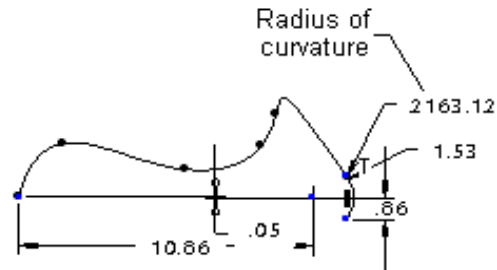

Figure 3-16 Radius of curvature dimensioning
3. Press the middle mouse button to place the dimension. Figure 3-16 shows the radius of curvature dimensioning of a spline.